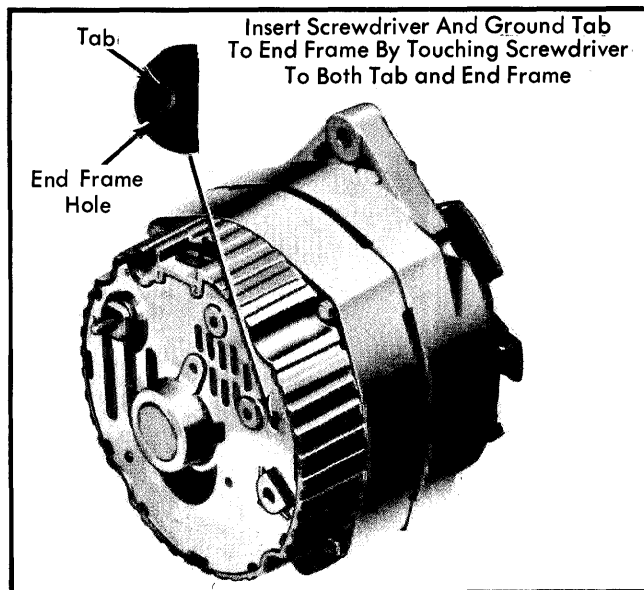

Fig. 4 View Showing Field Ground Tab Accessible Through Hole in End Frame
4) If ampere output is within 10 amps. of rated output stamped on alternator case, alternator is good. If output is not within 10 amps. of rated output, ground field winding tab by inserting a screwdriver into end case test hole. See Fig. 4.